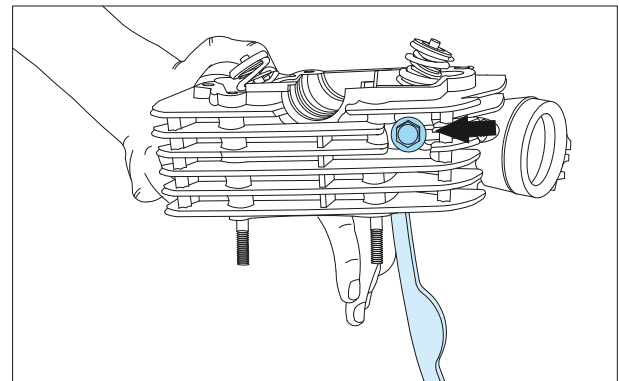

Fig. 3.61
- To replace the tensioner cam chain loosen and remove 1 no. Stud bolt cylinder head along with washer cam chain tensioner from cylinder head. (Fig. 3.61)